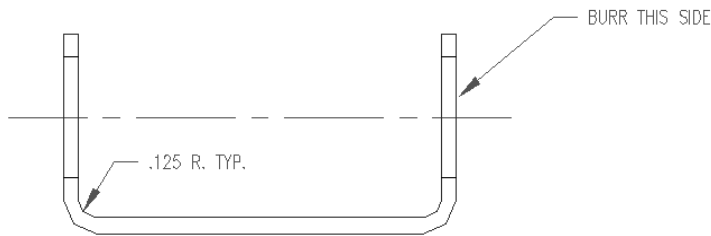

**Figure 14-23:** Using leaders to point to objects and add explanatory text.
*Leaders* are lines pointing to objects. At the end of a leader, you place any text that you want. Use leaders to label objects or provide explanatory text. Leaders are not associative; that is, AutoCAD and AutoCAD LT do not calculate dimension text. Figure 14-23 shows two leaders.